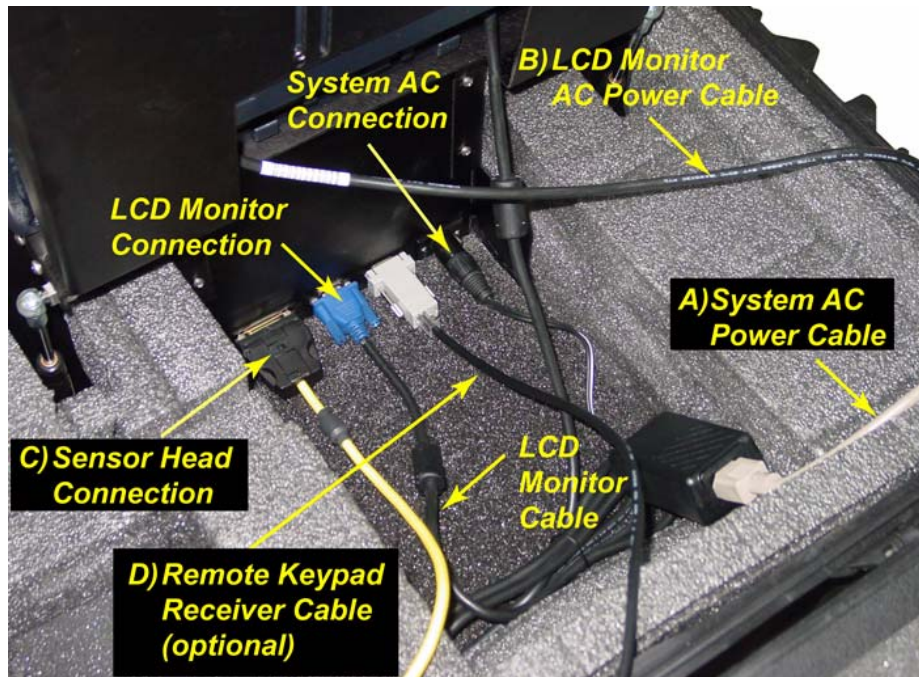

Figure 2-3: Cable connections in the back of the Conquest system.
5. Figure 2-3 shows all the cables and connections in the back of Conquest system. All these connections should already be in place but check to make sure that they are secure. Also check that the connection to the Sensor Head is tight.